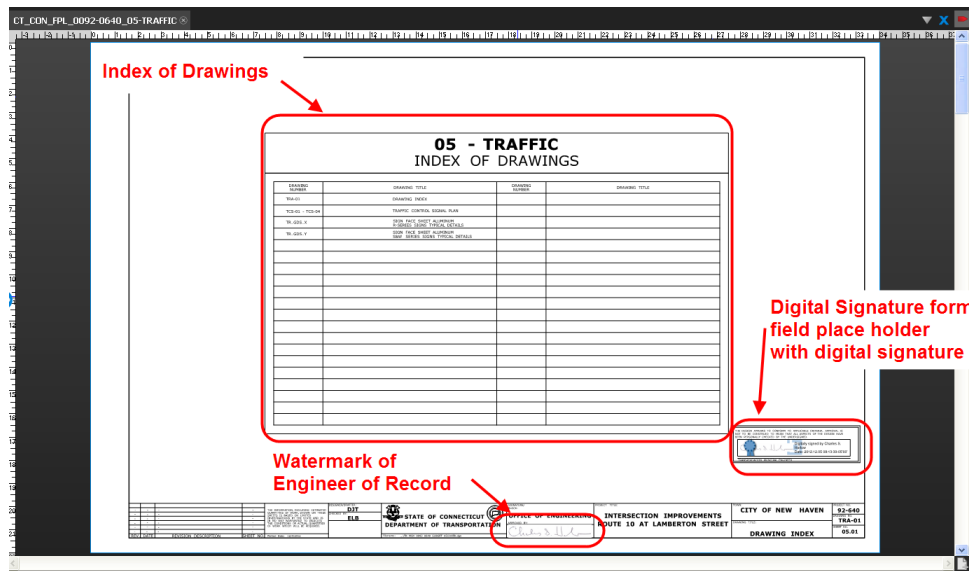

Figure 1 Discipline Subset Bookmarks, Index of Drawings, & Signature fields
12. Each subset shall contain bookmarks; one for each page. Figure 1 displays an example of bookmarks. See Publishing MicroStation Content to PDF Format.pdf for more instructions.
- a. Figure 1 also displays examples of subgroup folders. While publishing, subgroups may be created to contain similar sheets. See Publishing MicroStation Content to PDF Format.pdf for more instructions.
18. The first page of each subset shall be a subset cover sheet, this includes FIO subsets. This cover sheet shall contain both; an index of drawings contained within the subset that includes both drawing numbers and drawing titles and the form field place holder(s) which receives the digital signatures. The following cell has a table for the index of drawings and the digital signature cell place holder BDR Discipline Cover Sheet cell. This table must include the subset name and number displayed as a heading in the table. See Figure 1 for an example.